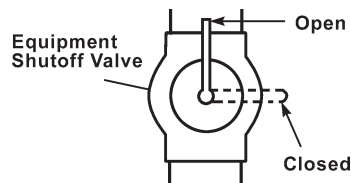

Figure 15-Equipment Shutoff Valve
1. Close equipment shutoff valve (see Figure 15).
1. Open equipment shutoff valve (see Figure 15).